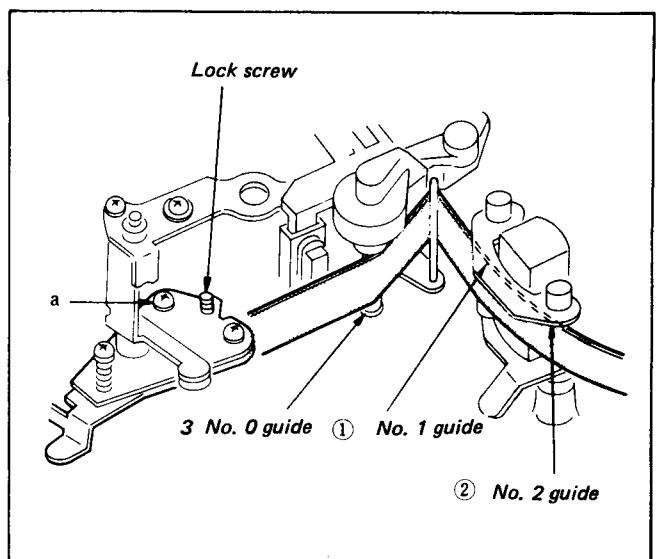

Fig. 3-6. Replacement and Adjustment of Tension Regulator Arm Plate Assembly (2)
(6) Play back the Monoscope segment of the alignment tape (KR5-2H). Loosen the lock screw and adjust screw "a" so that the RF waveform becomes flat (see the waveform in the tape path adjustment, Section 3-16-1) when the TRACKING knob is turned to the right and left from the flanges of guides ①, ②, and ③ shown in Fig. 3-6, and there is not a large tape curl at the guides.